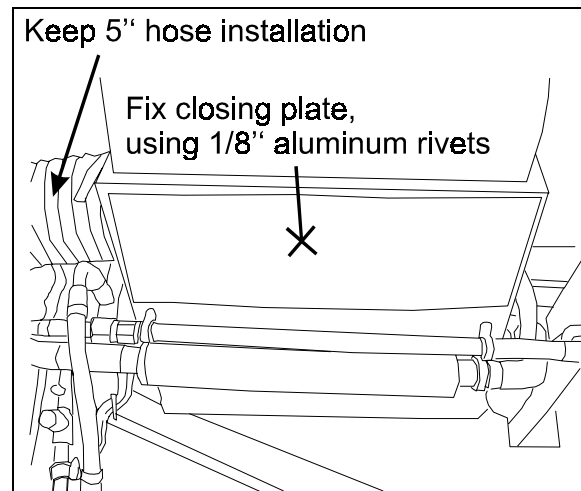

FIGURE 3
4. Fix cover using 1/8" aluminum rivets (refer to figure3).